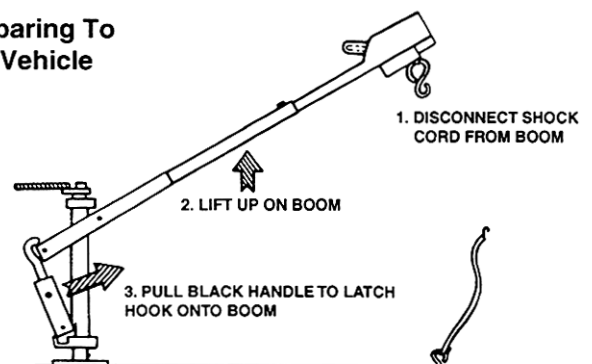

Figure 8
Drill a 11/32-inch (8.7 mm) diameter hole in the floor directly under the spool when the boom is folded down for storage, parallel to the rear door (See Figure 8).
Drill a 11/32-inch (8.7 mm) diameter hole in the floor directly underneath the spool when the boom is folded down for storage, parallel to the rear door (See Figure 8).
- 1) Unhook the shock cord from the end of the boom. Lift the boom until you can latch the S-hook over the 1/2-inch (1.27 cm) diameter bolt at the boom inner end using the black handle (Figure 8).